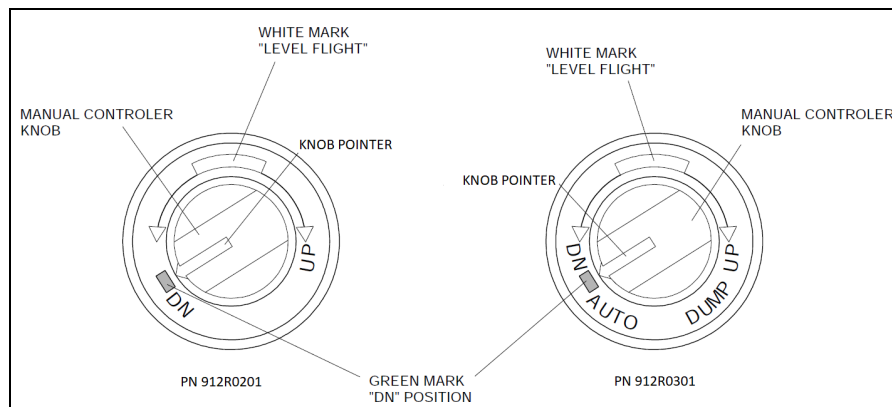

Figure 1
- 2- Do a check of the manual controller knob (PNs 912R0201 or 912R0301, see Figure 1 below) as follows: